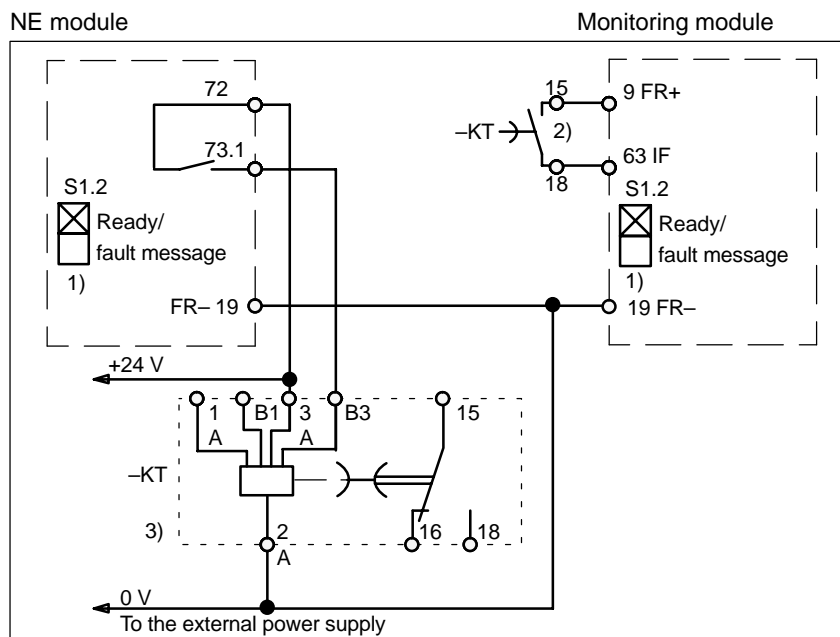

Fig. 9-7 Delayed shutdown, pulse enable
- Delayed pulse enable withdrawal —> refer to Fig. 9-7